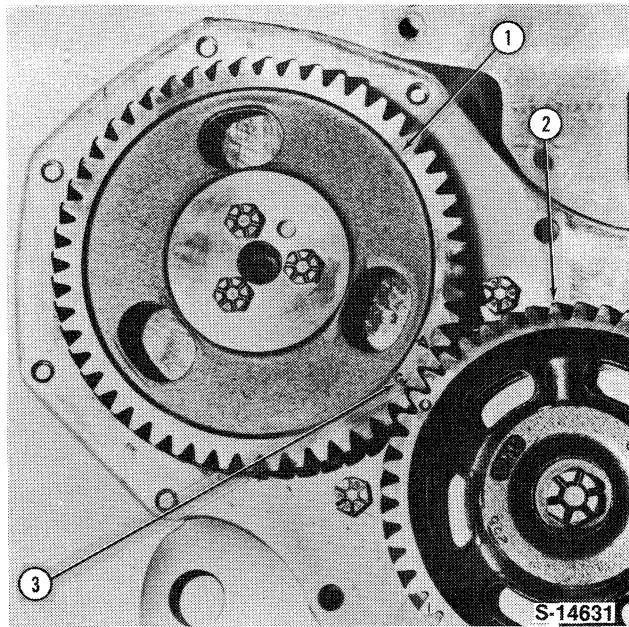

Figure 31
4. Install the fuel injection pump on the engine front plate. Check that No. 1 piston is at T.D.C. with all timing marks aligned. Install the injection pump drive gear with the 3-cylinder timing mark aligned with that of the camshaft idler gear, Figure 31.
NOTE: *All engines with a rotary (distributor) type fuel injection pump use the same injection pump drive gear. This gear features two timing marks identified by numerals '3' and '4' for 3 and 4-cylinder engines respectively, Figure 31. When installing the pump drive gear, be sure the appropriate 3 cylinder timing mark aligns with the camshaft drive gear timing mark.*